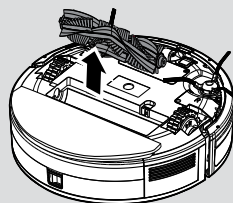

Fig. 18
3. Lift up the agitator by grasping one end of agitator. [Fig. 18]